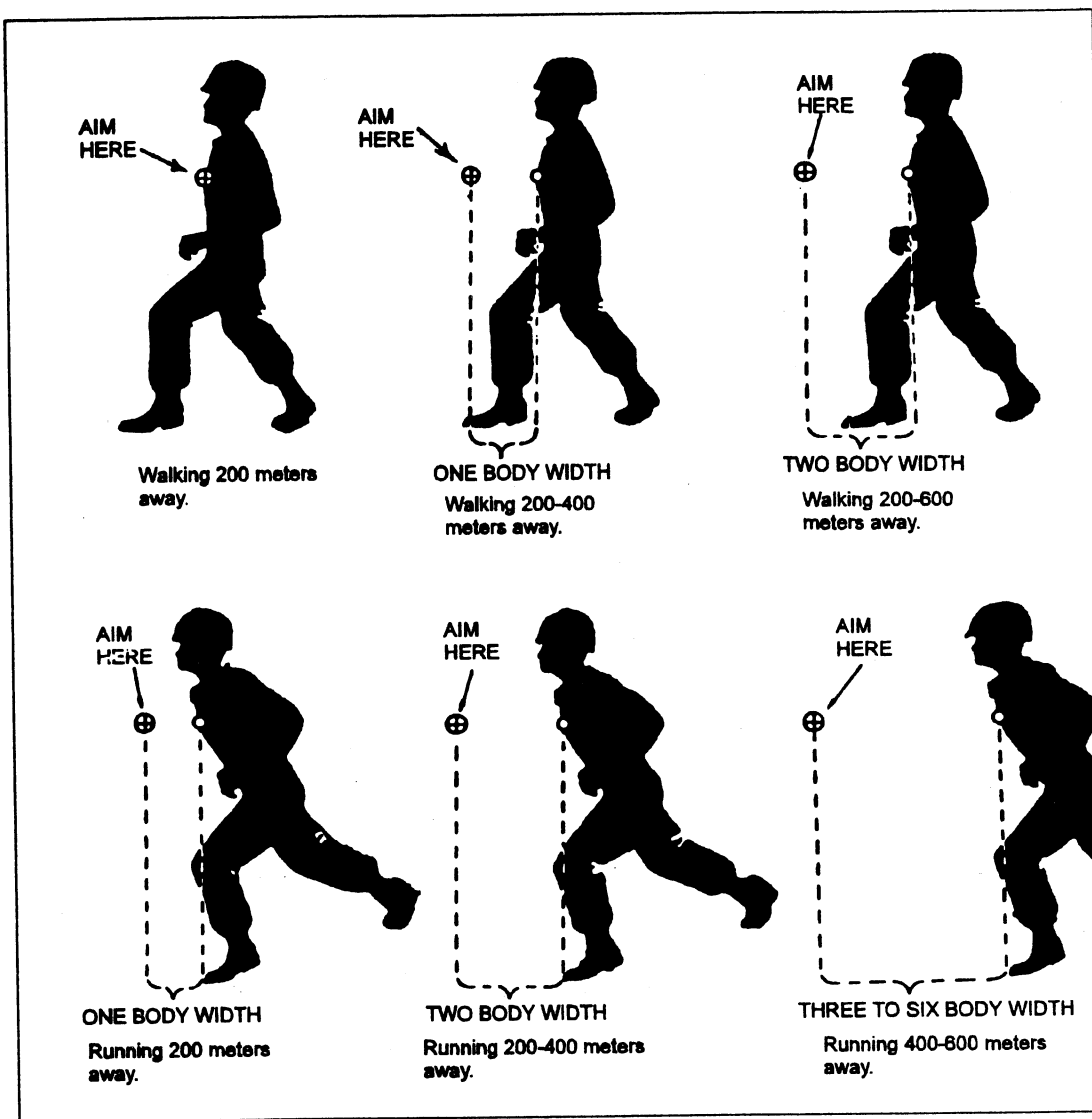

Fig 4-4. Leads.
- a. The key to this method is your ability to maintain a constant lead on a target while firing and adjusting. A "lead" is the distance in front of a moving target at which you must aim and fire to effectively engage it. Figure 4-4 illustrates the approximate leads you would use to engage individual enemy soldiers. Most of the time enemy soldiers will not move directly across your front. In such case, the lateral speed relative to your line of fire will decrease, thus decreasing your lead.